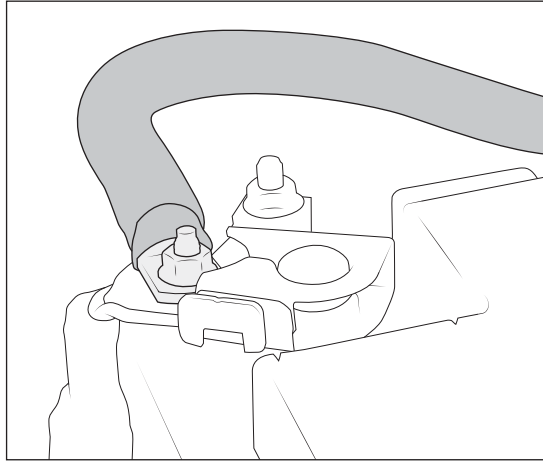

Figure 24
20. Route the negative lead alongside the battery and connect to the negative terminal (fig. 24).